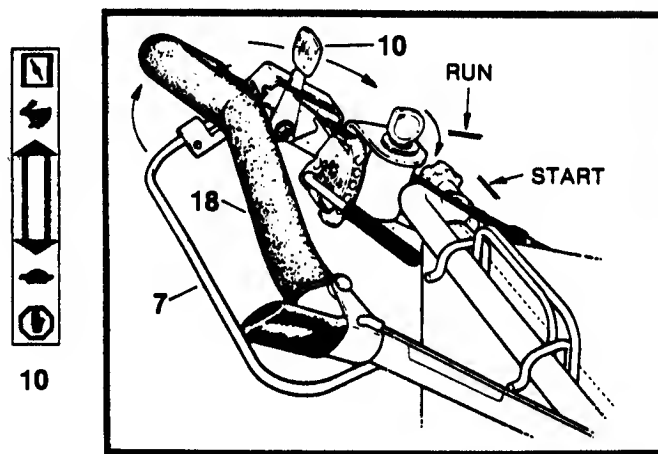

FIG. 4-ELECTRIC START
**ELECTRIC START:** The KEY/IGNITION switch (13) has two positions - RUN & START. The engine **CAN NOT** be stopped at the switch! Stopping the engine is accomplished by either releasing the BLADE CONTROL or by moving the ENGINE CONTROL to STOP position. Refer to FIG. 4.
1. Move ENGINE CONTROL lever (10) to START (CHOKE) position.
2. Hold BLADE CONTROL (7) firmly against UPPER HANDLE (18) - otherwise the engine will NOT start.